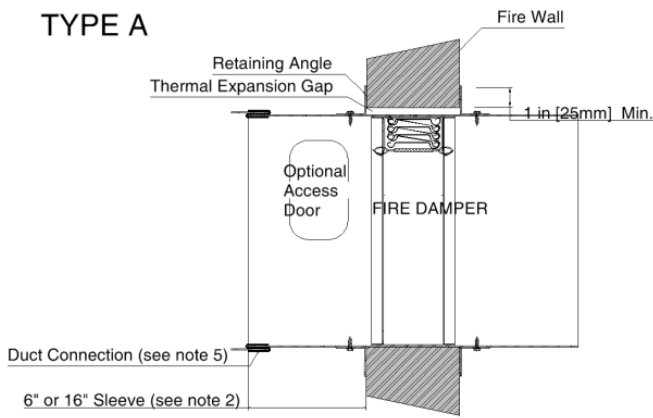
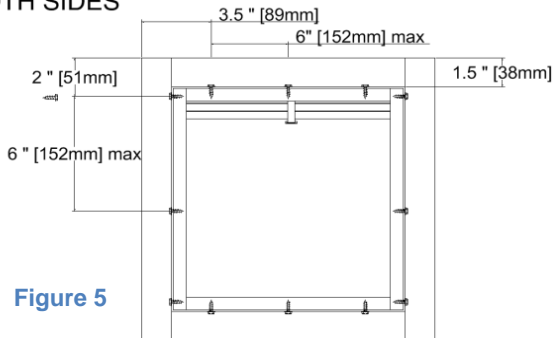

Figure 1
Figure 5
**4. SECURING DAMPER IN OPENING (2 ANGLE METHOD):** In this method 2 sets of angles are used to secure the damper in the opening, one on each side of the partition (See Figures 1 through 5). Two Angle Method is approved for 3 Hr. installations and any maximum size multi-section UL approved damper. Angles shall be a minimum of 1 1/2" x 1 1/2" (38mm x 38mm) x 16 Ga. The angles are to overlap the partition a minimum of 1"(25mm). These angles may be of a unit type construction and may or may not be fastened to each other at the corners. Angles are to be fastened to the sleeve on 6" centers with #10 (M5mm) sheet metal screws, 3/16" (5mm) steel pop rivets, 1/2" (13mm) tack welds, or 1/4" (6mm) diameter nut and bolts and not more than 2" (51mm) from each end with a minimum of two connections per side/leg. When the duct work terminates at the damper or installation prohibits angles from turning out/away from the wall, the retaining angle shall be reversed (leg turned into the opening) providing the size of the opening is increased by an amount equal to twice the combined thickness of the angle and the height of the screw or bolt head to maintain expansion clearances. See Note 1A for information on clearances. See Fig. 5 for detailed drawings of installations. Retaining angles should not be fastened to the wall material. The angles should only sandwich the partition and allow for damper / sleeve expansion during periods of intense heat.